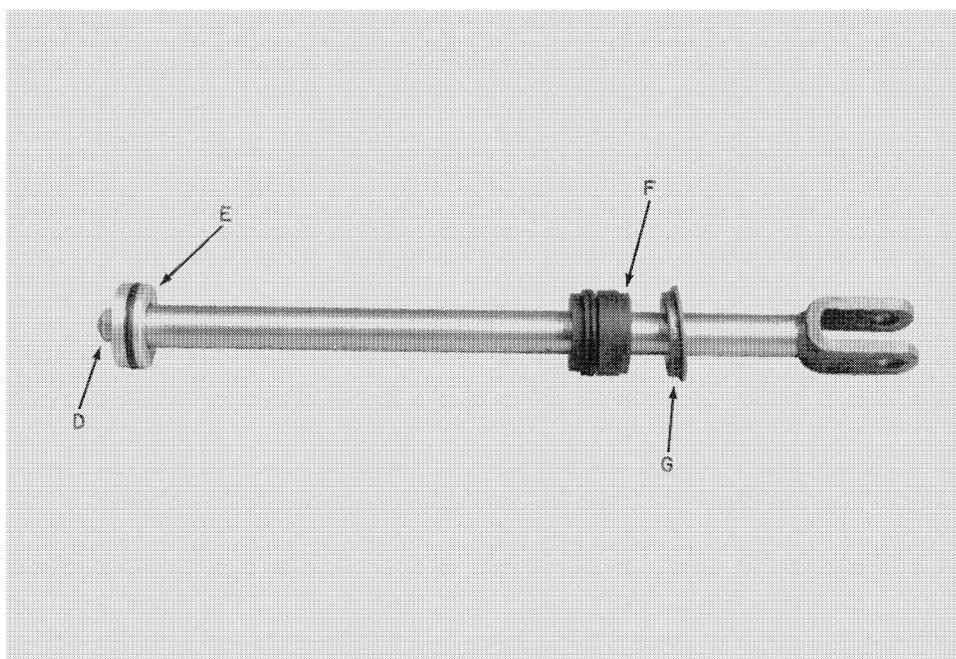

FIGURE 36
4. Remove rod nut, D, Figure 36, and remove piston, E, and cylinder head, F. Remove end cap, G.
2. Install cap, cylinder head, and piston as shown in Figure 36. Tighten rod nut, D, to 250 ft. lbs. (339 N·m) torque.